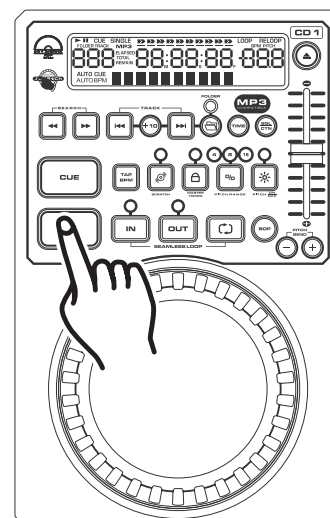
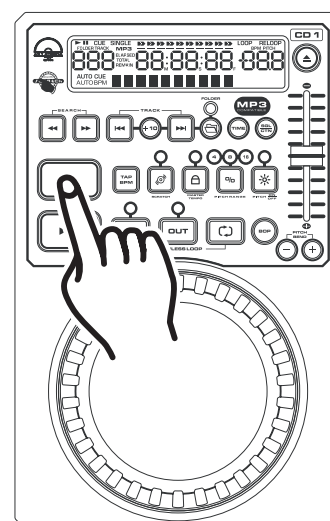

Figure 10
Figure 11
3. STARTING PLAYBACK - *Figure 10*
5. STOPPING PLAYBACK - *Figures 10 & 11*
- 1) Press the *PLAY/PAUSE BUTTON (15)* during playback. This will pause playback at the exact same point the *PLAY/PAUSE BUTTON (15)* was pressed.
- 2) Press the *CUE BUTTON (17)* during playback. This will pause playback and return the track to the last set cue point.
6. PAUSING - *Figure 10*
This feature allows you to scroll through a track frame by frame, allowing you to find and set a starting cue or loop point. To use the scroll function you must first be in Pause Mode or Cue Mode. Once you are in Pause or Cue mode, turn the *JOG WHEEL (12)* to scroll through the track (*Figure 12*). Turning the wheel in a clockwise direction will advance the frame search and turning the wheel in a counter-clockwise direction rewinds the frame search. When you use the *JOG WHEEL (12)* the monitor (headphone level) function allows you to here what you are scrolling through. Once you reach your desired starting point you can set a cue (starting) point by pressing the *PLAY/PAUSE BUTTON (15)* as in *Figure 10*. Pressing the *CUE BUTTON (17)* as in *Figure 11* will now return you to the point you just set.